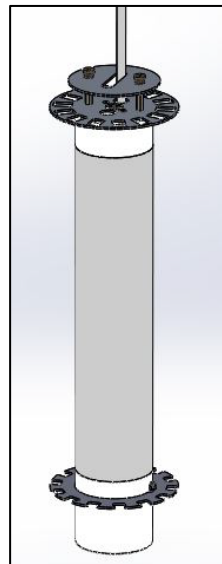

FIG. 2 - KWT LUMINAIRE
1. KWT LUMINAIRE with CORD attached. (Pre-assembled as shown in FIG. 2)